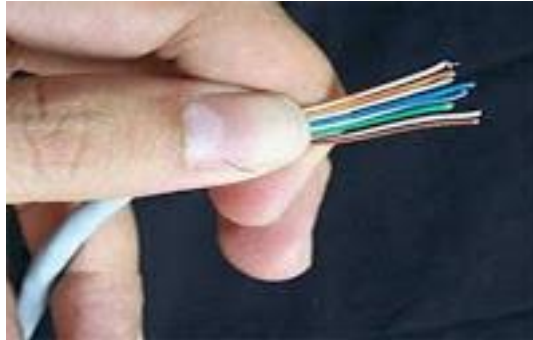

Figure 13. Examples of Cable Alignment and Alignment Results
5. Once sorted, straighten the small cable in parallel and flatten the surface of the cable until it looks like it's in Figure 13.